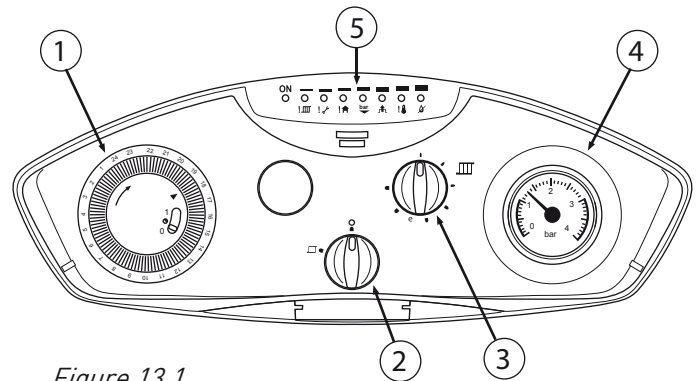

*Figure 12.1*
**12.3** Release the cover cap of the boiler's automatic air vent situated on top of the pump. (*Figure 12.1*)